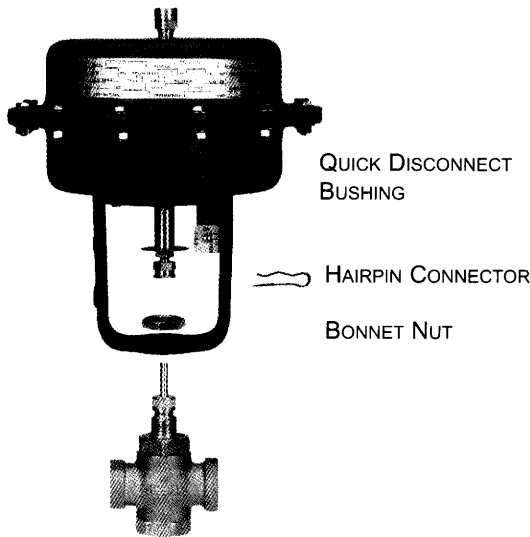

Figure 6-ACTUATOR AND VALVE
DISASSEMBLING ACTUATOR FROM VALVE (Figure 6)
1. Detach actuator from valve (See Figure 6).